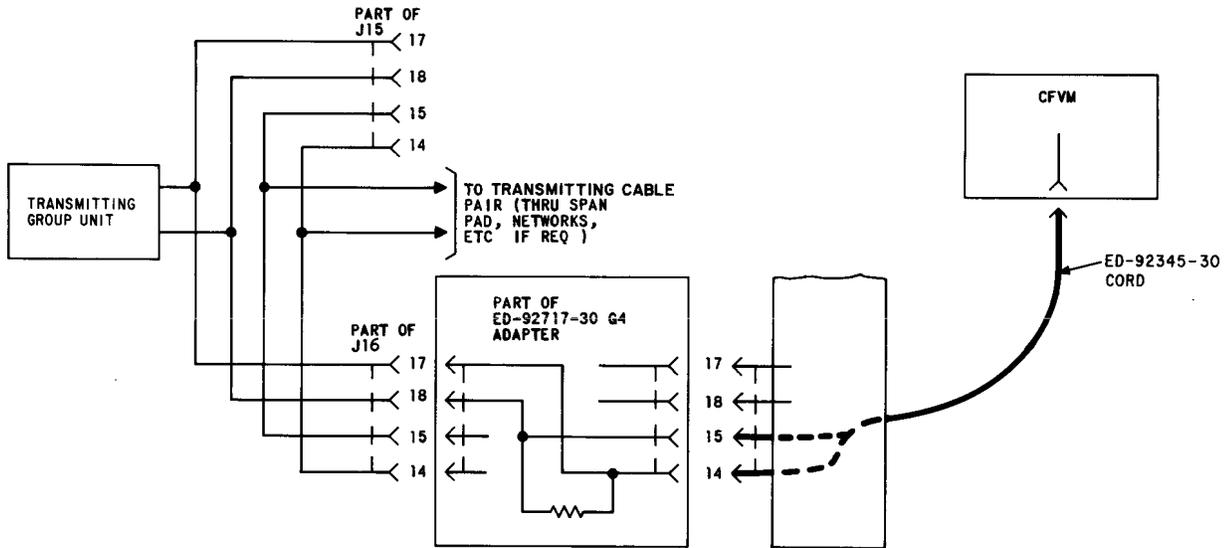

Fig. 1—Jack Arrangement at Output of Group Transmitting Unit
- 3 Terminate the group transmitting unit in 135 ohms by inserting the ED-92717-30, G4 adapter into jack J15. Figure 1 shows the jack arrangement at the output of the group transmitting unit.